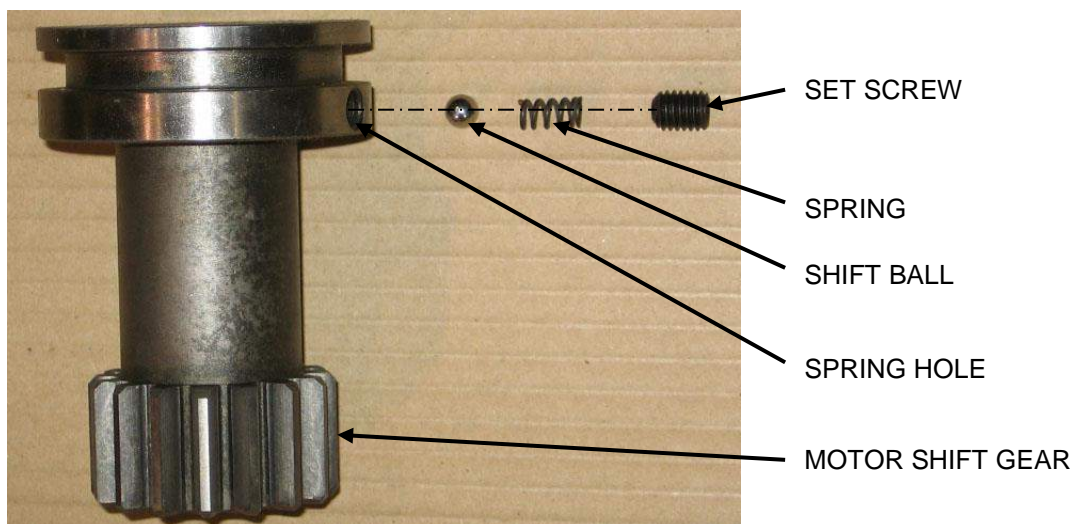

FIGURE 11.22: MOTOR SHIFT GEAR ASSEMBLY PARTS
8. As shown in figure 11.22, place the shift ball and spring into the spring hole. Ensure the shift ball is visible inside the spline of the motor shift gear (see Figure 11.21).